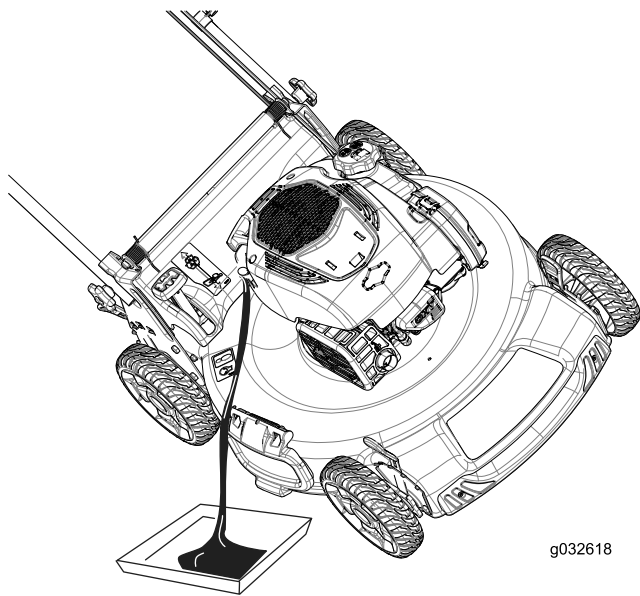

Figure 28
- 4. Tip the machine onto its side (so that the air filter is up) to drain the used oil from the oil-fill tube (Figure 28).